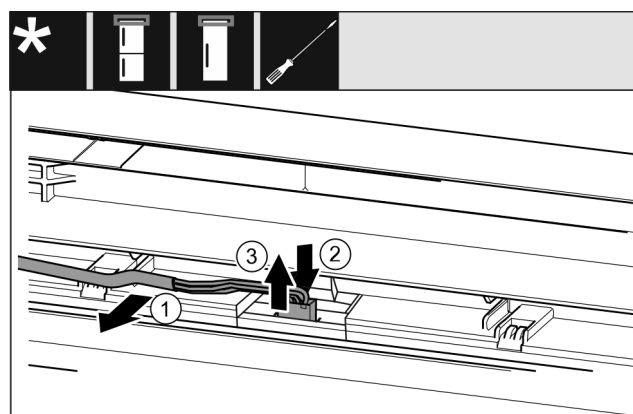

Fig. 20
- Carefully release the grey cable from the guide in the door. Fig. 20 (1)
- Push back the lug behind the plug. Fig. 20 (2)
- Pull out the plug carefully upwards. Fig. 20 (3)